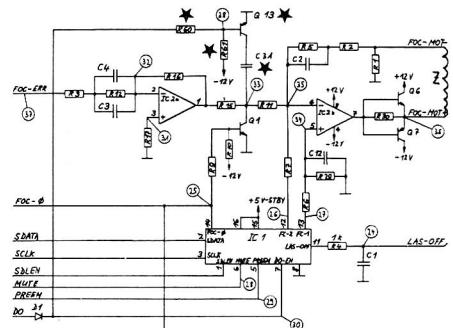

Fig. 3.3 \* not used for 1.769.315
- Modification of 1.769.310 to 1.769.315 is recommended. Only unsoldering of capacitor C 31 is required (Fig. 3.3).